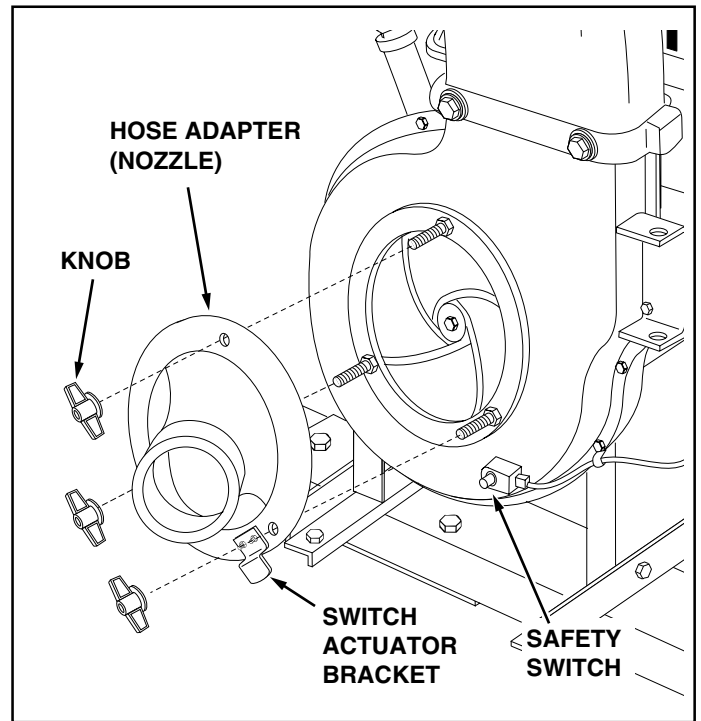

FIGURE 18
35. Assemble the hose adapter (nozzle) to the front of the impeller housing, securing it with the three knobs. Make sure that the switch actuator bracket depresses the switch on the housing. See figure 18.